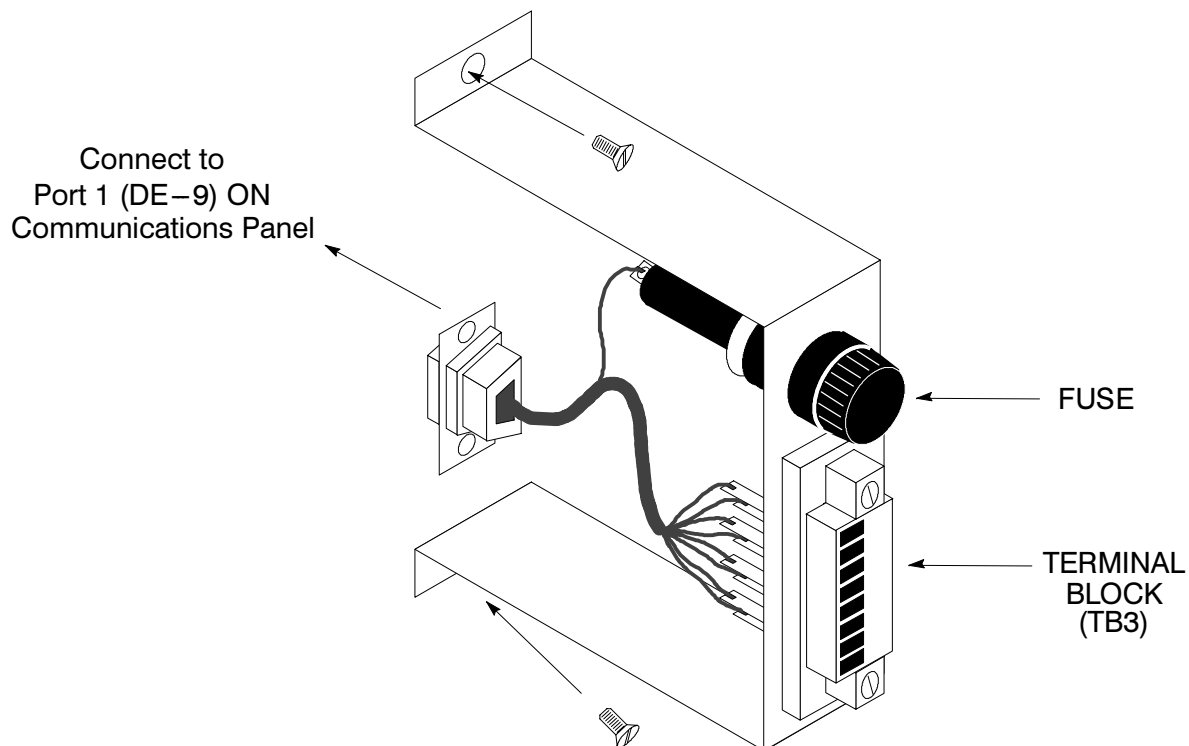

Figure 14. Terminal Block Bracket
3. If not already installed, locate the RMP adapter cable assembly (see Figure 14) in the spare parts kit. Mate the DE-9 connector on the back of the terminal block into the DE-9 connector on the Communications Panel of the UPS (see Figure 15). Use two screws from the spare parts kit to secure the terminal block bracket to the Communications Panel.